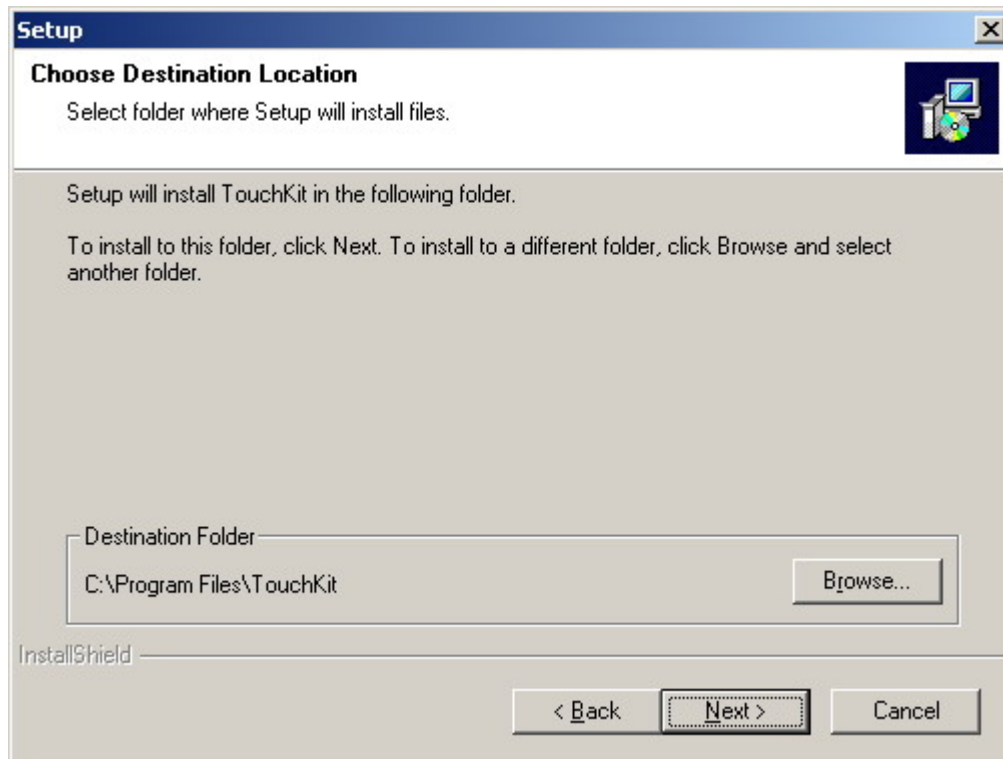

Figure 7-8: Controller Installation Directory
Step 11: The user is then prompted to select a file directory in which the touch kit controller is installed (**Figure 7-8**). The default directory is “C:\Program Files\TouchKit.” If a different folder must be used, select browse and then select the folder. Once the folder is selected, click **NEXT** to continue.